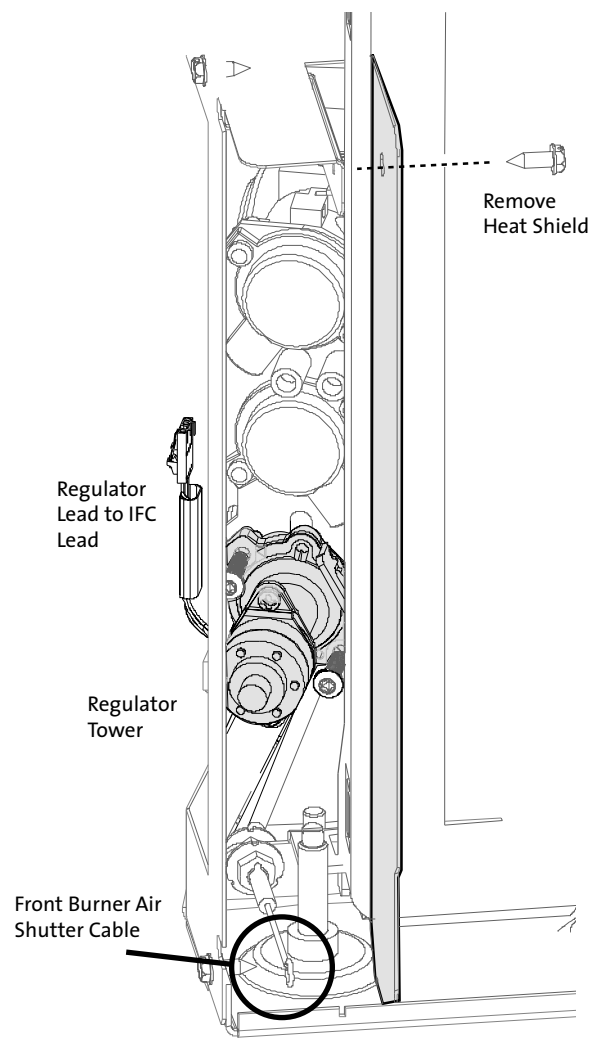

Figure 16. Replace the Regulator Tower.
3. **RETRACT THE AIR SHUTTERS:** Two Air Shutter cables are located in each side compartment and push them fully in. This action retracts the shutters and allows the burner to be disengaged from the firebox. See figs. 16 and 58.
8. **CHANGE THE VARIABLE REGULATOR TOWER** on the gas control valve. See fig. 16.
1. An Air Shutter cable is located on the floor of each side compartment. Engage the end of the Latch Tool with the cable eye and push each fully in. This action retracts the shutters and allows the Burner assembly to be disengaged from the firebox. See figs. 16 and 58.